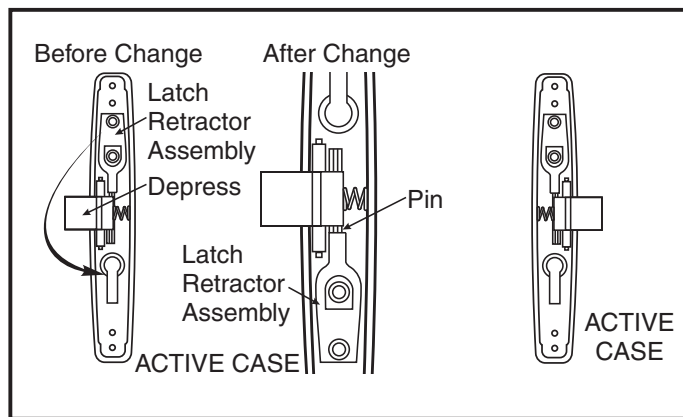

Figure 15
3. To reverse latch retractor assembly, depress latch bolt with finger then lift out assembly and reposition in opposite end of active case so that slot in latch retractor engages pin in back of latch. (Figure 15)